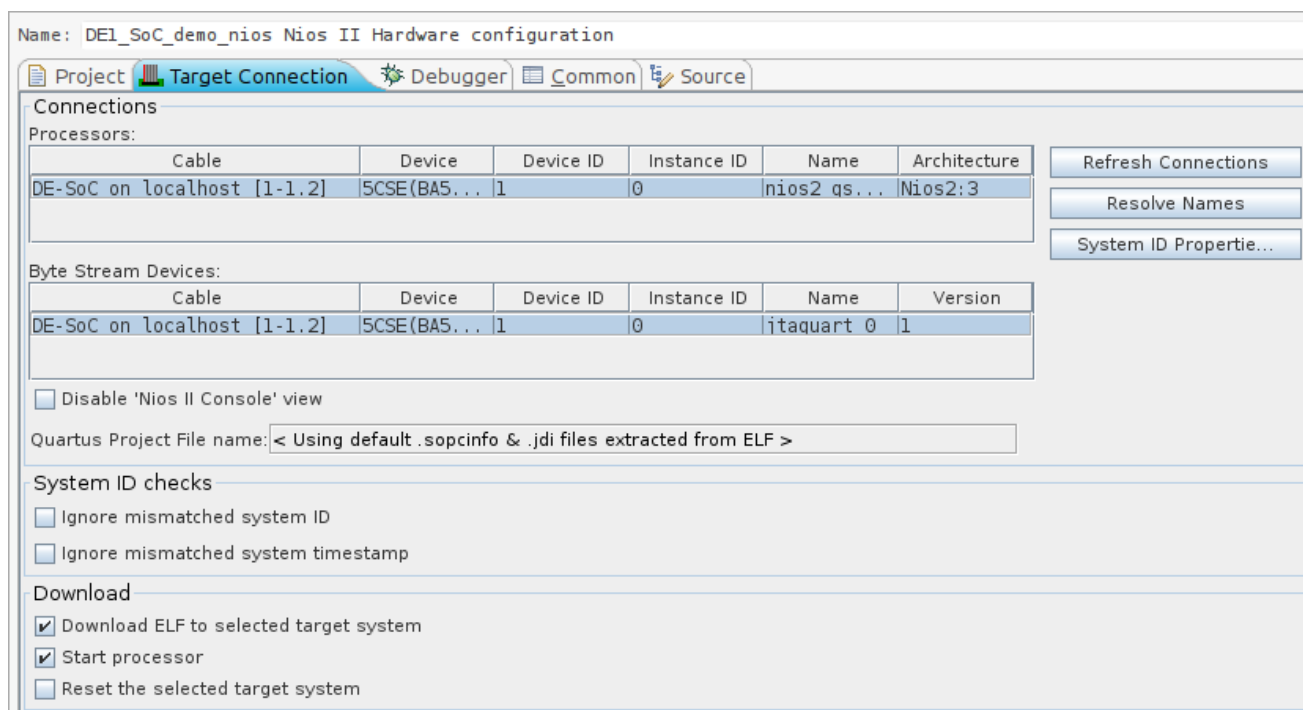

Figure 8-22. Nios II Target Connection Dialog
9. In some cases, it is possible that the program will not immediately run on the Nios II processor, and you will be prompted with a “Target Connection” dialog, as shown in Figure 8-22. If your Nios II CPU doesn’t appear in the list of available processors, then
- a. Click on the “Refresh Connections” button on the right of Figure 8-22.